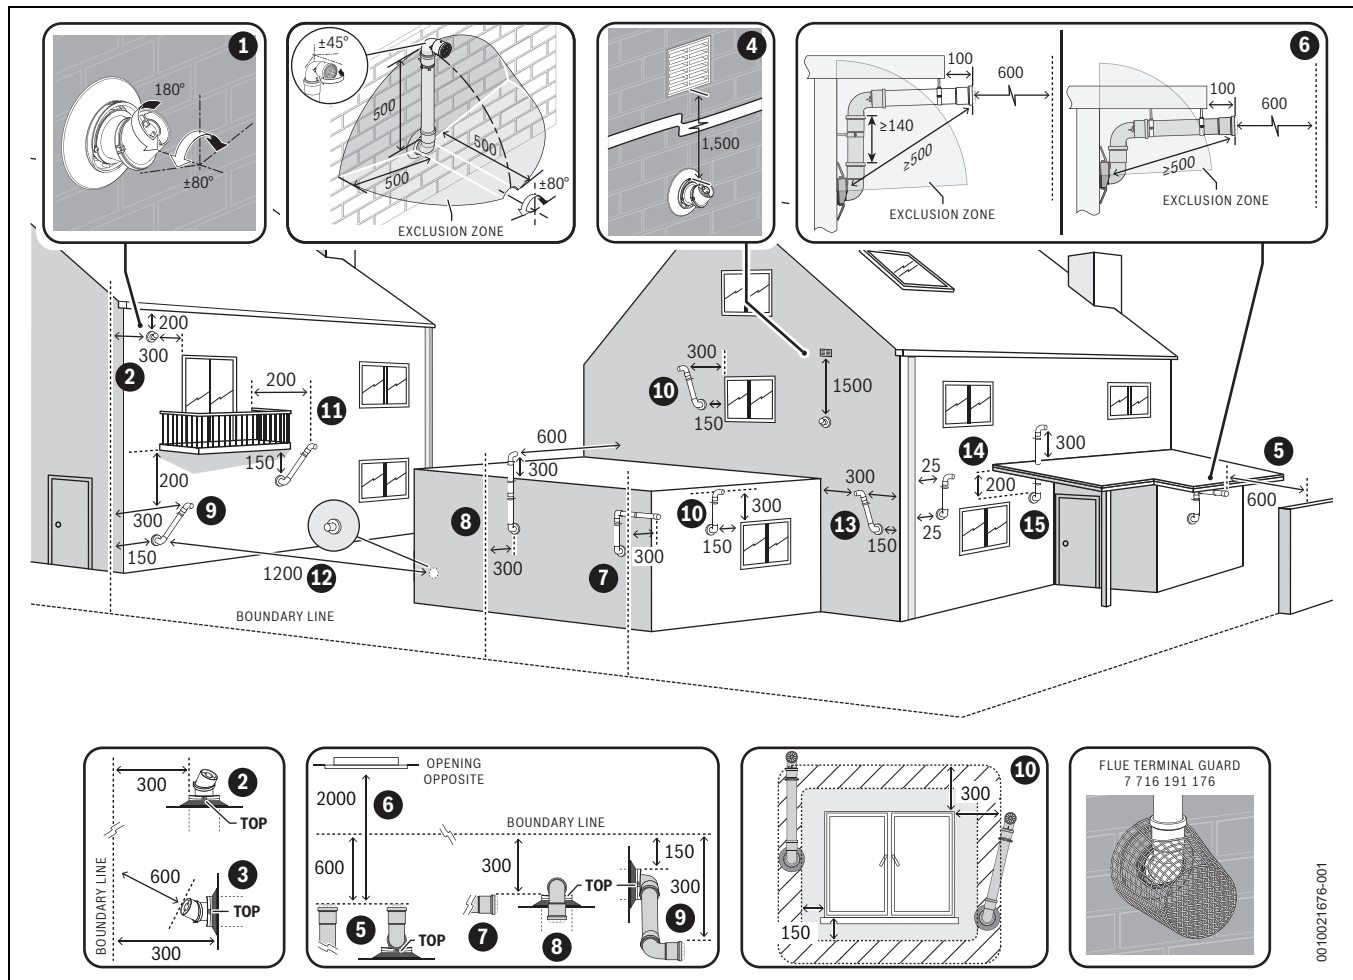

Fig. 31 Plume re-direct and plume management terminal positions
- ▶ Refer to "Horizontal flue terminal positions" for all concentric flue terminal positions unless the flue position is specified in figure 31 "Plume re-direct and plume management terminal positions".
Key to figure 31